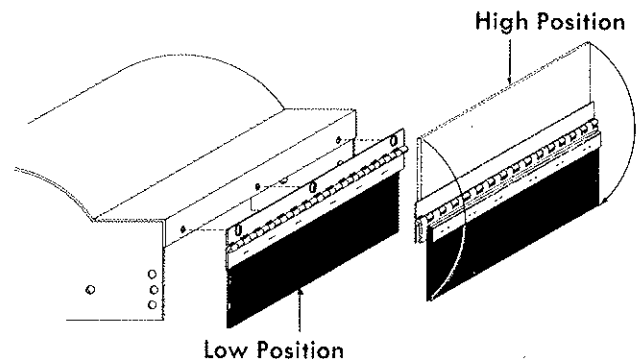

Fig. 5
7. If grass is exceptionally tall, it may be necessary to place discharge gate in upper position (see Fig. 5), to permit thatch concentrations to escape.
6. The height of the discharge gate has two positions. Fig. 5 clearly indicates location and method of changing to a suitable high or low position.